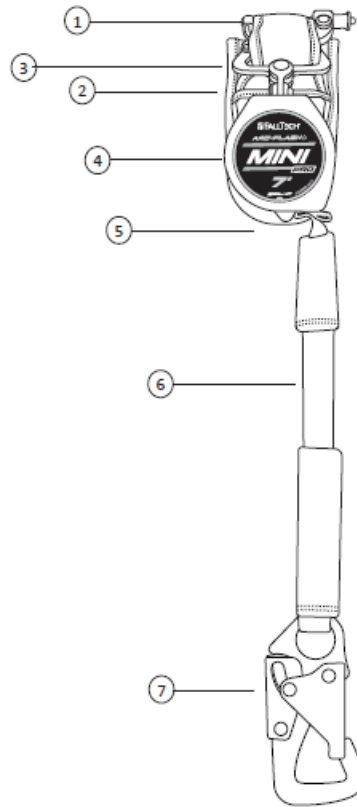

Figure 1 – About the Arc Flash Mini Pro Class 1 SRL-P
As shown in Figure 1 below, the Arc Flash Mini Pro has a nylon housing that contains a synthetic lifeline wound onto a spring tensioned drum. The Arc Flash Mini Pro lifeline is equipped with an energy absorber and a leg-end connector. When the user is attached, the lifeline extends and retracts with the user movement, automatically maintaining taut lifeline. If a fall occurs, a centrifugal pawl system engages, stopping the lifeline payout. Then, the in-line Energy Absorber (EA) will deploy, gradually slowing and arresting the fall.